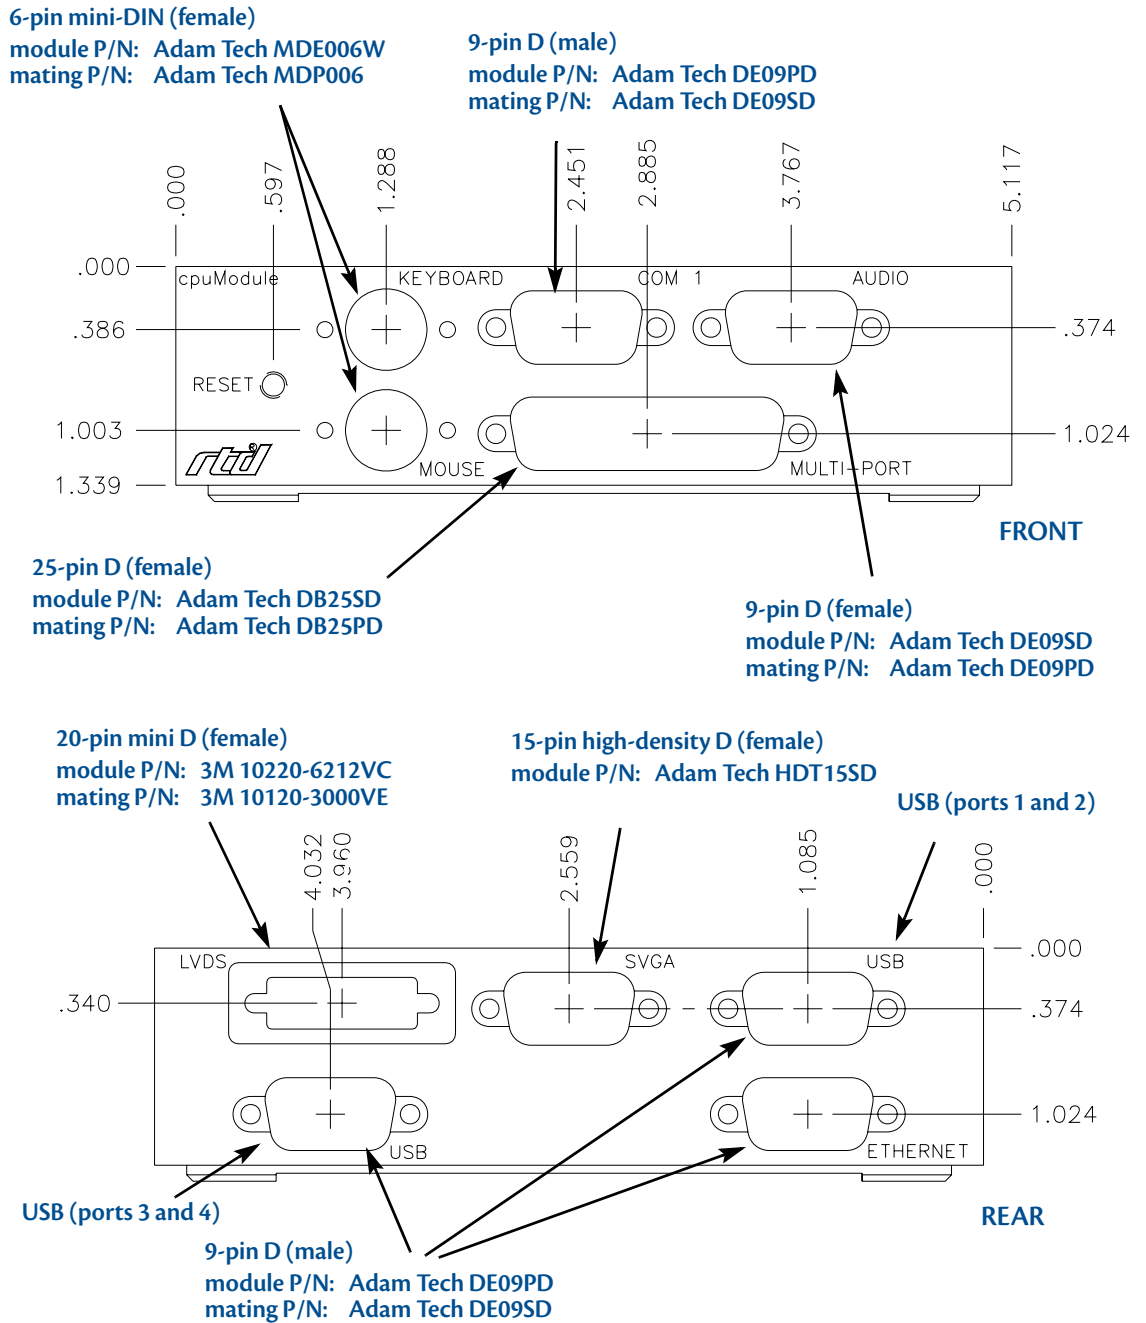

Figure 9 IDAN-CMX15886PX Connectors¹
1. Heatsink fins (not shown in Figure 9) extend 0.75 inches from the sides of the IDAN frame.